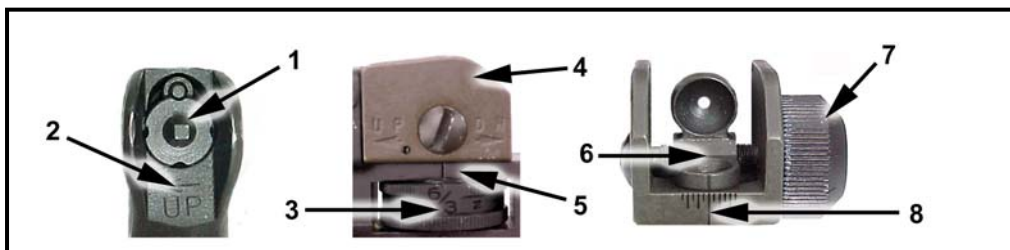

Figure 2-8. M16A4 MWS mechanical zero.
(1) **Mechanically Zeroing the M16A4.** Mechanically zeroing the weapon is only necessary when the weapon zero is questionable, the weapon is newly assigned to the unit, or the weapon sights have been serviced. If necessary, the soldier should mechanically zero the weapon as follows (Figure 2-8):
- (a) Adjust the front sight post (1) up or down until the base of the front sight post is flush with the front sight post housing (2).
- (b) Adjust the elevation knob (3) counterclockwise, when viewed from above, until the rear sight assembly (4) rests flush with the carrying handle and the 6/3 marking is aligned with the index line (5) on the left side of the carrying handle.
- (c) Position the apertures (6) so the unmarked aperture is up and the 0-200 meter aperture is down. Rotate the windage knob (7) to align the index mark on the 0-200 meter aperture with the long center index line (8) on the rear sight assembly.